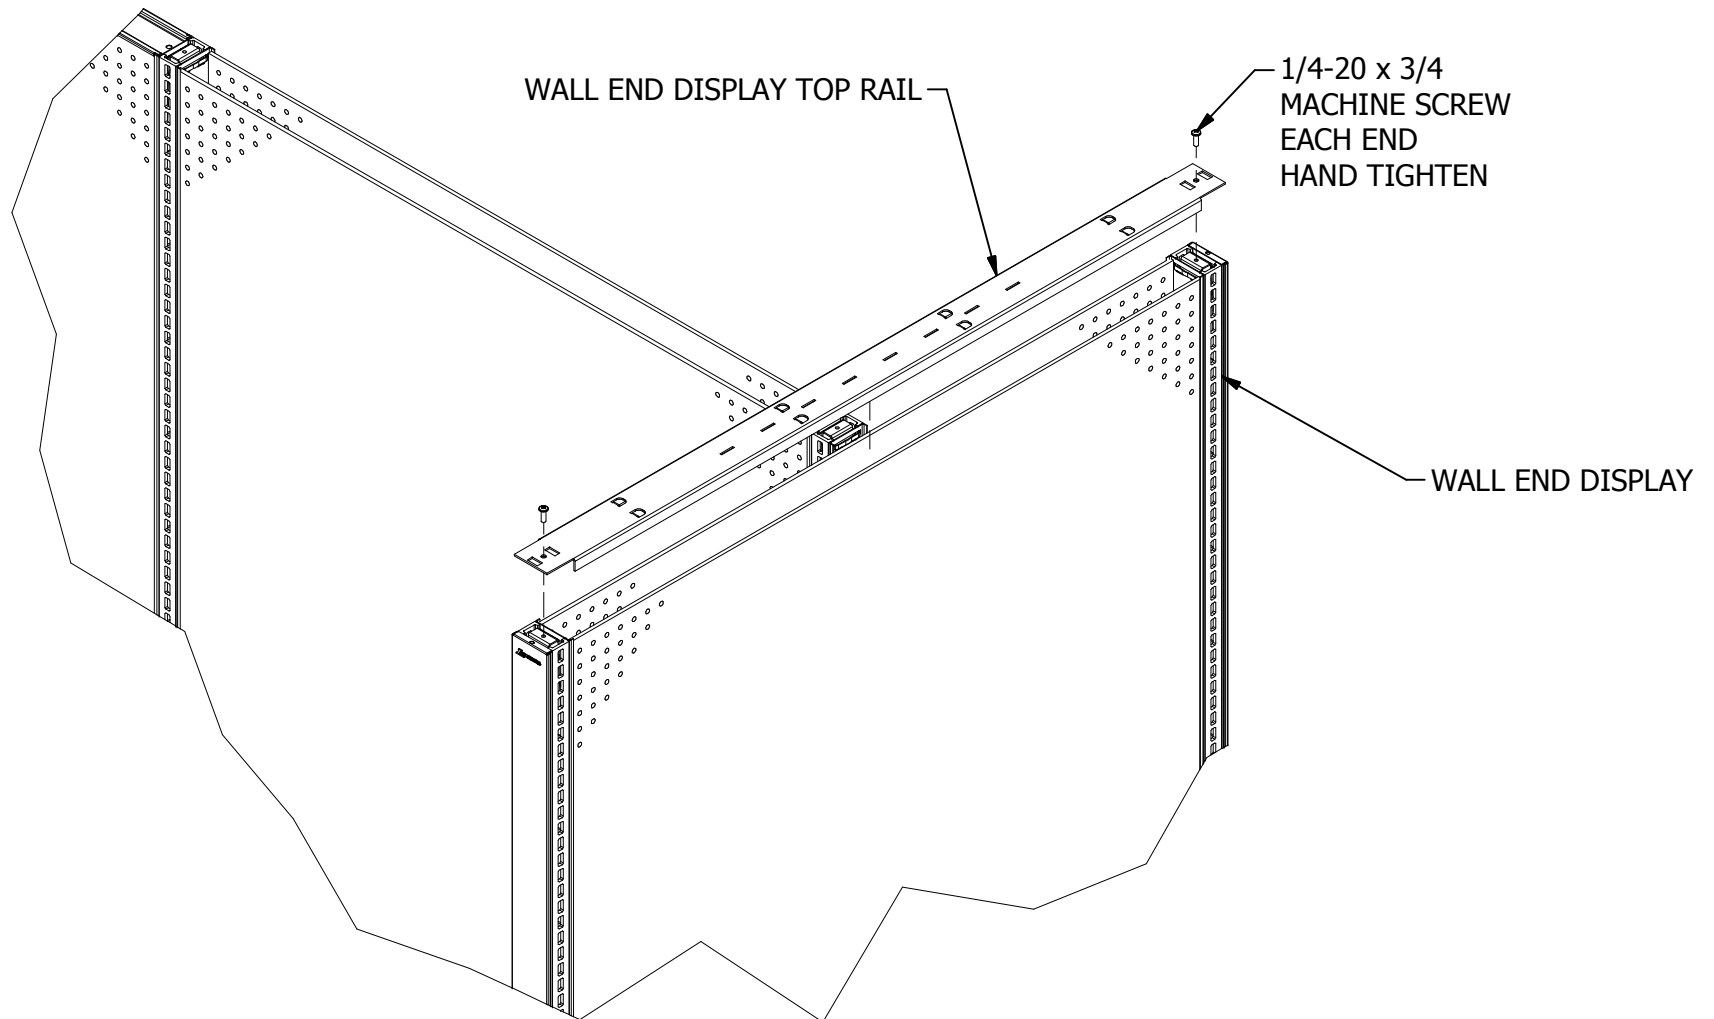

FIGURE 3
STEP 4: Install the wall end display top rail over the top of the uprights, inserts, and backs. Secure in place with 1/4-20 x 3/4 machine screws, HAND TIGHTEN WITH PHILLIPS SCREW DRIVER. (See FIGURE 3.)